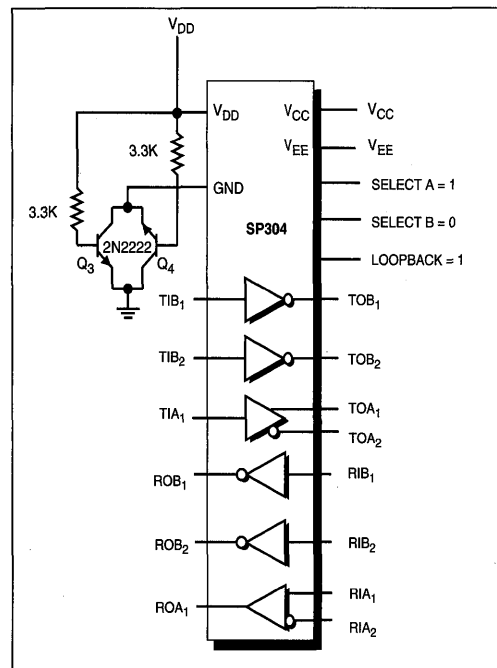

Figure 2. Typical Circuit
Figure 2 shows a typical circuit for the **SP304**. In this case the **SP304** is shown configured for one (1) duplex RS422 and two (2) duplex RS232 communication paths.